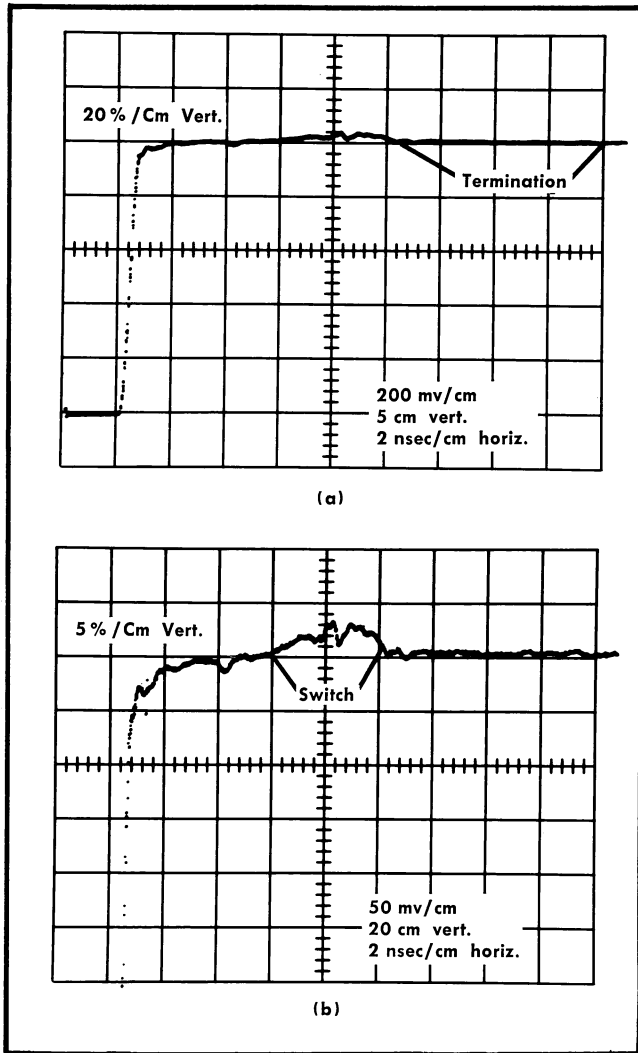

Fig. 4-4. Measuring signal reflection, step 3.
- Connect the 50 Ω termination to the Normally Closed cable of the Type 261 switch. The display should be as shown in Fig. 4-4 (a).
- Be sure the switch is mounted or held vertically.** Increase the oscilloscope deflection sensitivity to 50 mv/cm. The display will now show 5% reflection for each vertical centimeter. The display should be as shown in Fig. 4-4 (b).